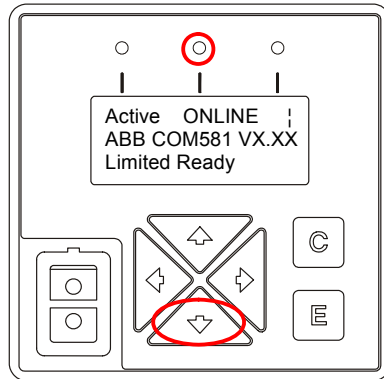

Figure 4.12 COM581 LMI
- Press the downwards arrow once when “Sync Point 6” appears on the local COM581 HMI (see Figure 4.12).